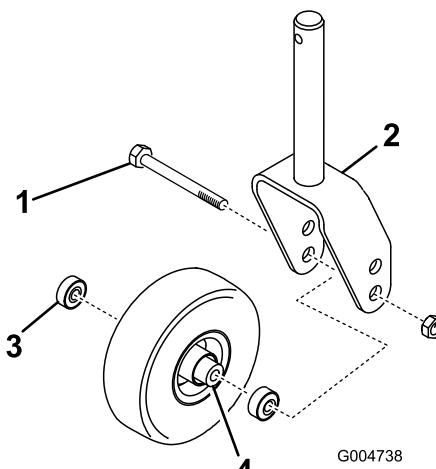
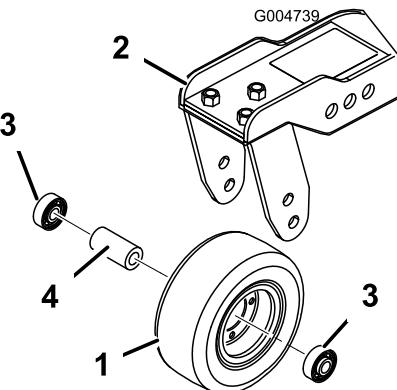

Figure 78
Figure 79
1. Remove the locknut from the bolt holding the castor wheel assembly between the castor fork (Figure 78)
or the castor pivot arm (Figure 79). Grasp the castor wheel and slide the bolt out of the fork or pivot arm.
2. Remove the bearing from the wheel hub and allow the bearing spacer to fall out (Figure 78 and Figure 79). Remove the bearing from the opposite side of the wheel hub.